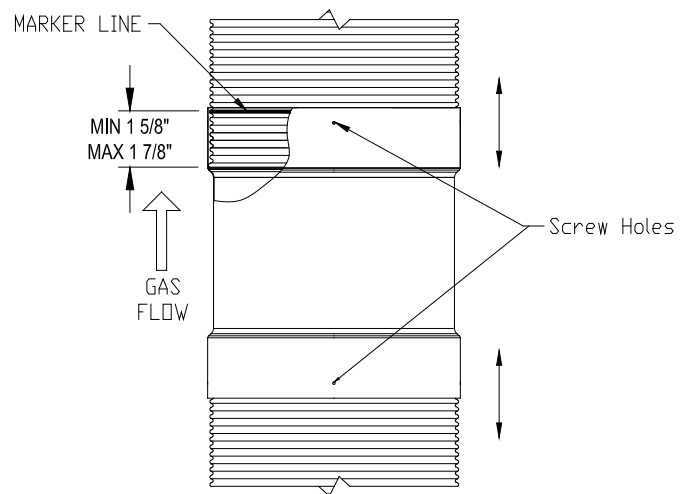

Figure 17 - DuraSeal Flex dry fit test
1.2. To make sure that everything is airtight before putting the sealant between both tubes, do a dry fit test by pushing the liner into the adapter until it reaches the bottom of the flare between the inner wall and the outer wall, then remove it (**Figure 17**).